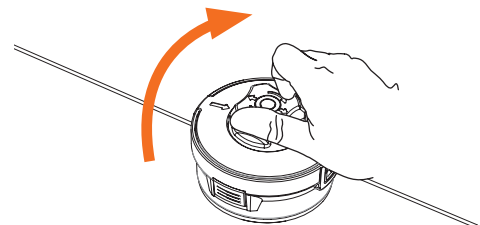

Figure 11
7. Turn the top of the spool clockwise while holding the spool housing to wind the cutting line on to the spool (see Figure 11).